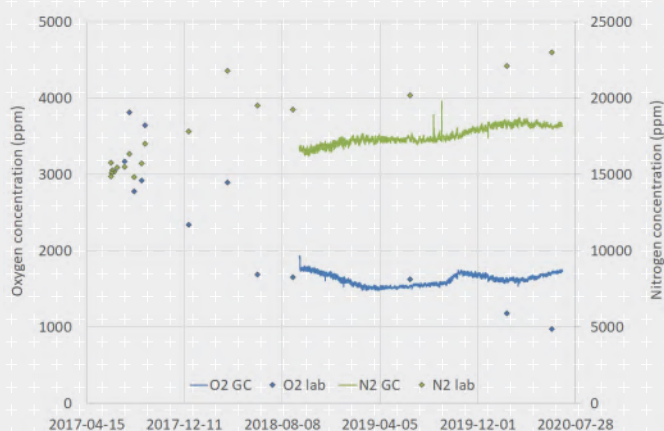

Figure 3.
The example in **Figure 3** compares an online gas chromatograph (GC) based DGA monitor against laboratory-measured references. Although the readings are closer to the reference values, a well-defined trend cannot be determined.